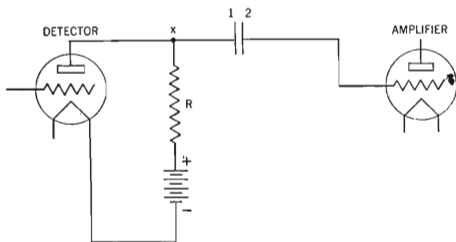

Fig. 90. Diagram showing how plate resistor (R) is placed in the circuit.
To meet this difficulty a resistor (Figure 90) is placed between the positive post of the B battery and point x. This resistor (R) retards the flow of electrons to the positive post of the B battery and thus forces some of the electrons flowing in the plate circuit to flow to plate 1 of the capacitor. This resistor is called a *plate resistor* and is usually about 100,000 ohms. As in the case of transformer coupling, a C battery is placed in the grid circuit of the amplifier tube to prevent the flow of grid current which would cause distortion.